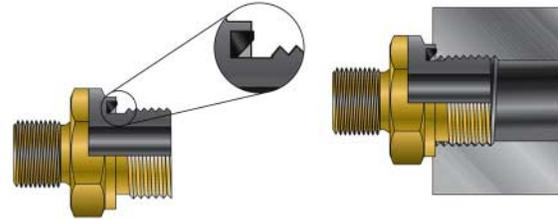

Fig. T2 – EOlastic Seal, Type E
With the BSPP and metric flat face port ends, the sealing actually takes place on the top surface of the port. Port dimensions can be found on page U29 and page U30 respectively. There are several sealing methods available for these ports. Port studs with style “E” sealing utilize Parker’s EOlastic seal (ED) (see Fig. T2) and are recommended for higher